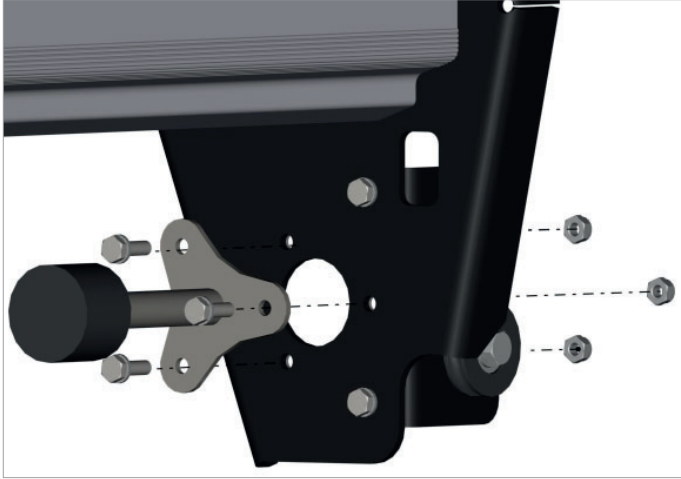

Fig. 4.3.6 Mounting the shock on the cover plate
- Mount the shock (or hydraulic shock absorber) on the coverplate with the provided fastening materials. Refer to fig. 4.3.6